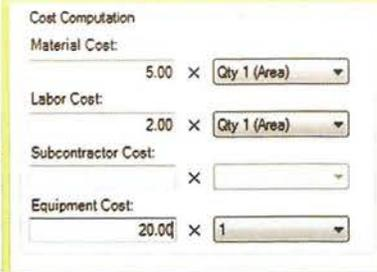

Fig 40: Cost
- Equipment Cost = 20.00; Multiplier = 1 (Figure 40)